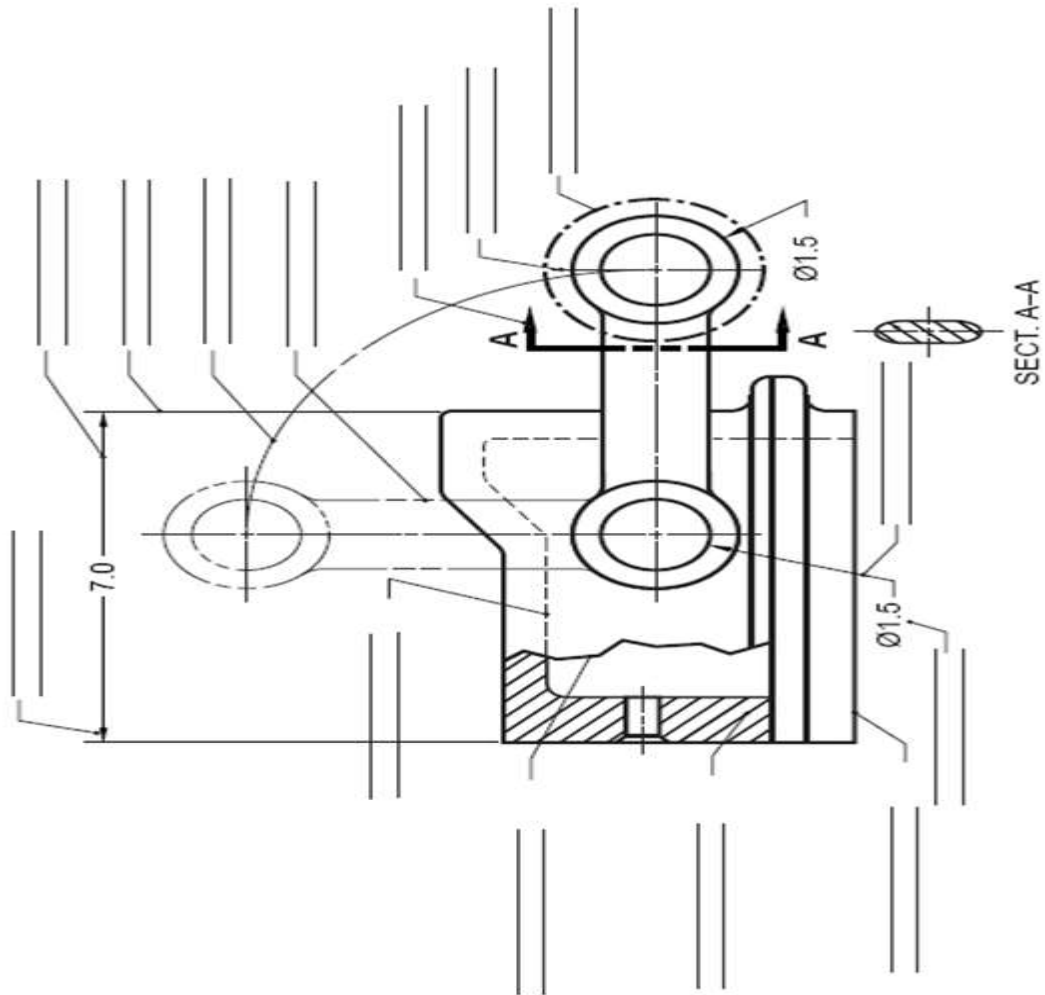

Fig. 2
3. Label each line type in the drawing below (Figure 2) within the guidelines.